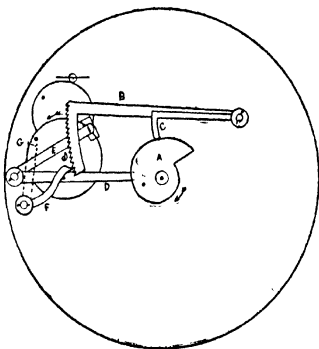

FIG. 79.—French Rack-striking Mechanism.
**Ordinary French Rack Striking.**—French movements like that shown in Fig. 57 are made both with rack striking and locking-plate. Fig. 79 shows the arrangement of a French rack striker. When compared with the English form, many